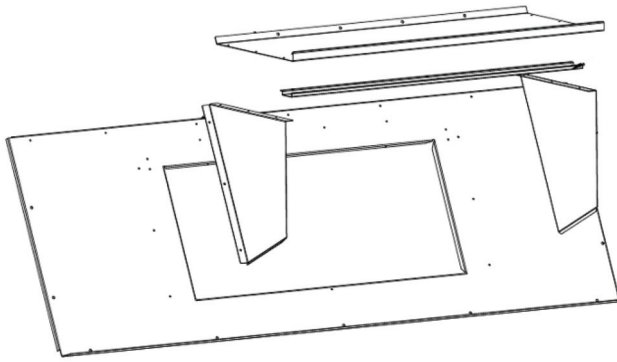

Fig. 26 — Barometric Hood Exploded View
3. Install parts as shown in the following exploded view (see Fig. 26) using the seal strip and screws provided in the parts box.